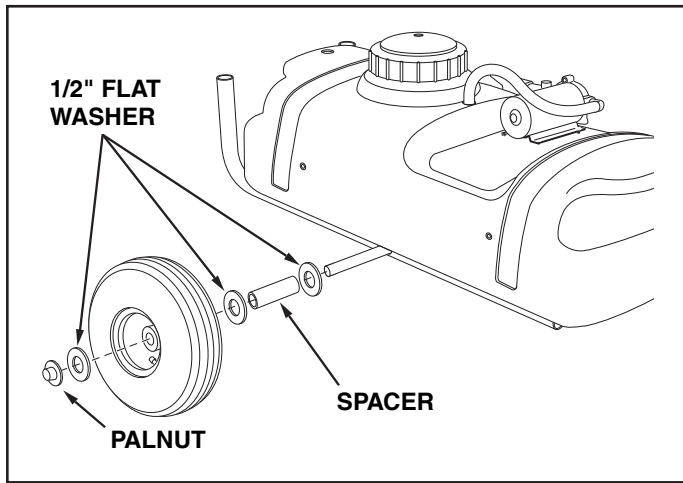

FIGURE 1
2. Assemble the axle through the holes in the frame tubes. You may need to slightly loosen the bolts in the frame tubes to make the axle fit. Retighten the bolts only enough to flatten the lockwashers. See figure 1.
3. Assemble a 1/2" flat washer, a spacer, a second 1/2" flat washer, a wheel (valve stem facing out) and a third 1/2" flat washer onto the axle. Lightly tap a palnut onto the end of the axle. Repeat on other end of axle. See figure 1.